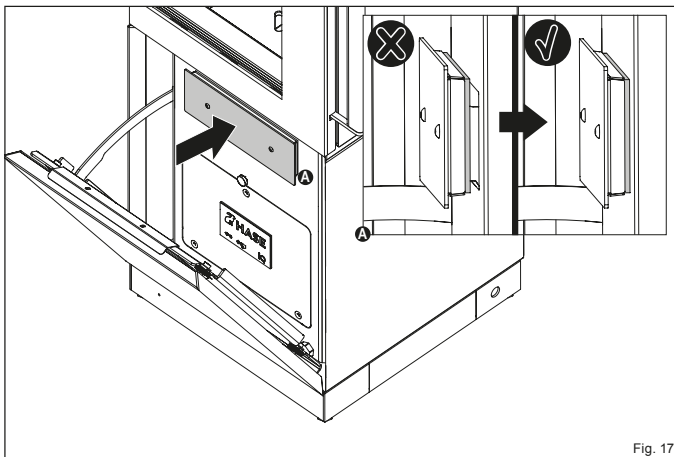

Fig. 17
When sliding in the ash pan, ensure it is flush with the seal (Fig. 17). This ensures the burning process is not disturbed by false air.
- ✓ **Slide the ash drawer back into the opening so it is flush with the seal (Figure 17).**
- ▶ Slide the ash drawer back into the opening (Fig. 17).